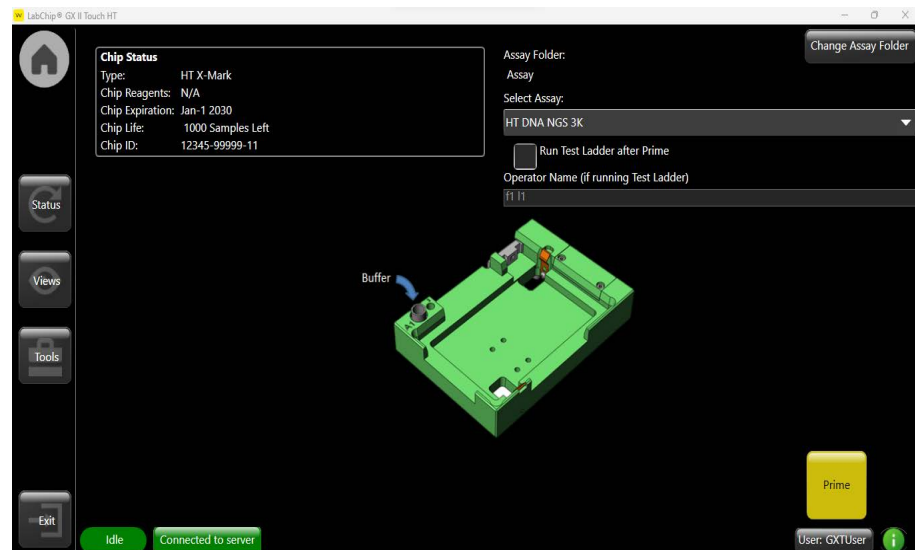

Figure 10. Prime Window
- 3 Touch the **Prime** button on the Home window. The Prime window opens (see Figure 10).